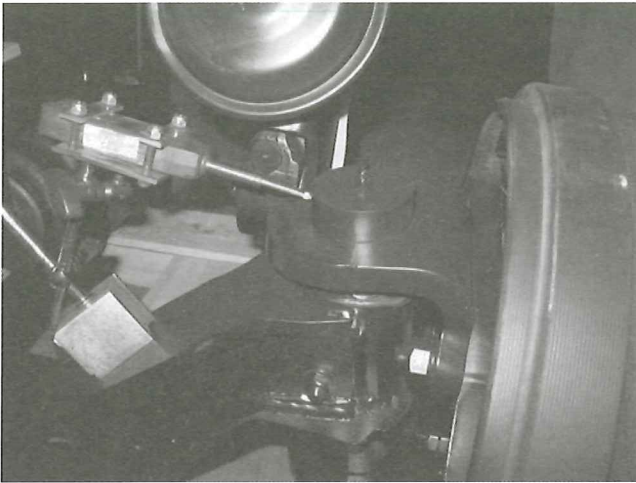

Figure 5. Upper Kingpin Bushing Check
3. Affix a magnetic base dial indicator on the axle and place the tip of the dial indicator on the inside of the upper kingpin connection as shown in Figure 5.